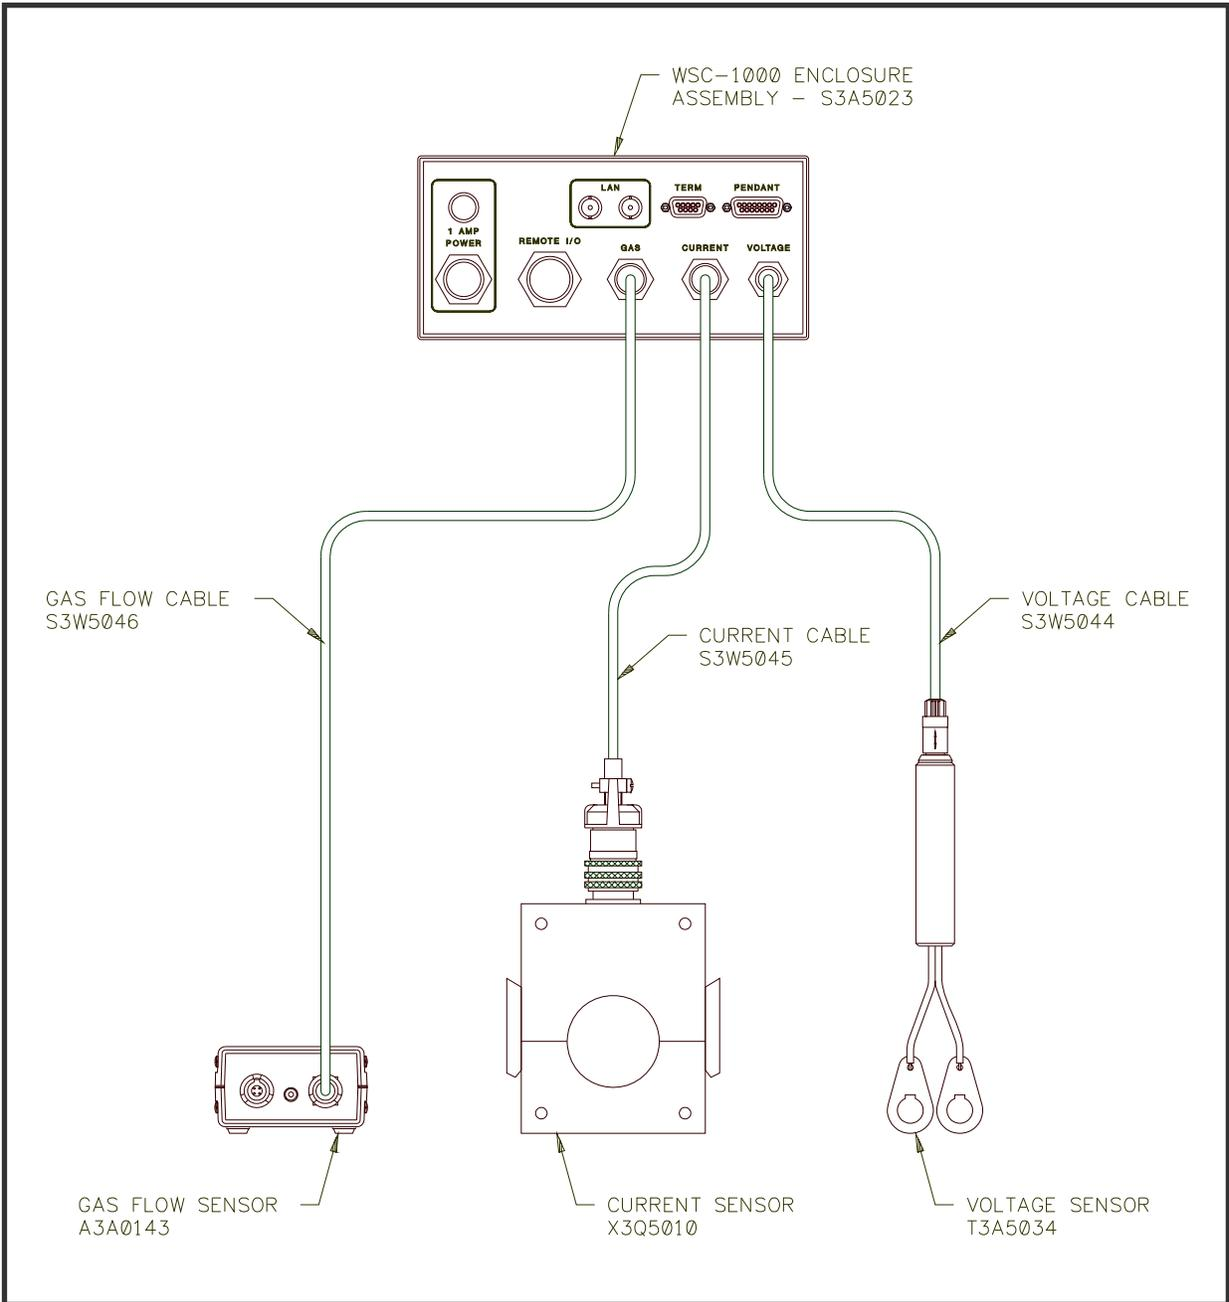

Figure 6
Refer to Figure 6 and install the arc current sensor (P/N X3Q5010). Install the current sensor around the welding ground cable. The sensor is a split shell design and the top of the sensor can be removed by releasing two (2) side-mounted latches. Make sure to orientate the two red dots on the sensor so they point toward the welding power supply. Pass the welding cable through the opening and reinstall the top half of the sensor. Make sure that the top and bottom half of the sensor are properly aligned and clamp the side latches. The current sensor can be mounted by installing 1/4-20 bolts through the holes provide on the outside of the sensor. The welding cable must pass through the center of the sensor. Connect the current sensor cable (P/N S3W5045) to the current sensor and to the WSC-1000.
Refer to Figure 6 and install the arc voltage sensor. The voltage sensor should be installed as close as possible to the welding torch. The location of this sensor is important as the WSC-1000 is a closed loop controller and the voltage being measured should be as close to the arc as possible. This will reduce the voltage drop caused by the welding current. Connect the voltage cable (P/N S3W5044) to the voltage sensor and to the rear of the WSC-1000.
If the optional gas flow sensor (P/N A3A0143) is being used Refer to figure 6 and install the sensor per the installation manual. Connect the gas sensor cable (P/N S3W5046) to the gas flow sensor (GTFM) and to the rear of the WSC-1000.